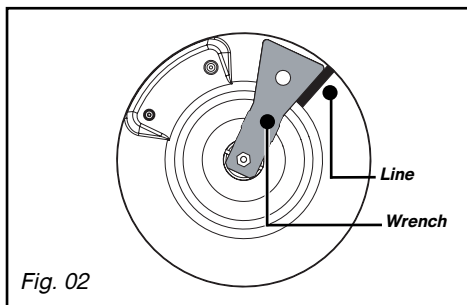

Fig. 02
– **Use a reinforced rubber hose with screw-on mechanical connectors** (compliant with the NF D 36-112 standard) with a 10-year guarantee (Fig. 02).
- Draw a line on the burner plate using a pencil, as shown (Fig. 02).